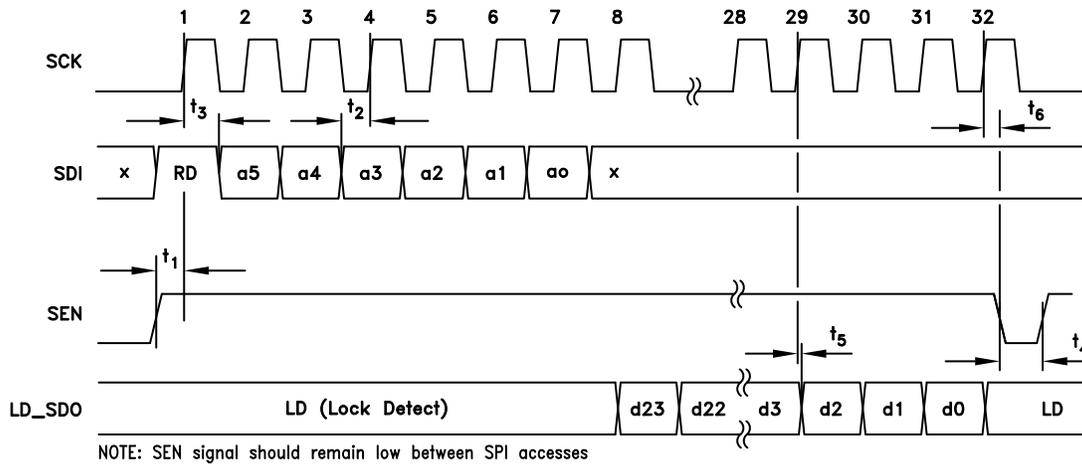

Figure 46. HMC Mode - Serial Port Timing Diagram - READ
The HMC Mode protocol, shown in figures Figure 45 and Figure 46, is designed for a 4 wire interface with a fixed protocol featuring
A typical HMC Mode READ cycle is shown in Figure 46.
- a. The Master (host) asserts both SEN (Serial Port Enable) and SDI to indicate a READ cycle, followed by a rising edge SCLK. Note: The Lock Detect (LD) function is usually multiplexed onto the LD_SDO pin. It is suggested that LD only be considered valid when SEN is low. In fact LD will not toggle until the first active data bit toggles on LD_SDO, and will be restored immediately after the trailing edge of the LSB of serial data out as shown in Figure 46.
- b. The slave (HMC833LP6GE) reads SDI on the 1st rising edge of SCLK after SEN. SDI high initiates the READ cycle (RD)